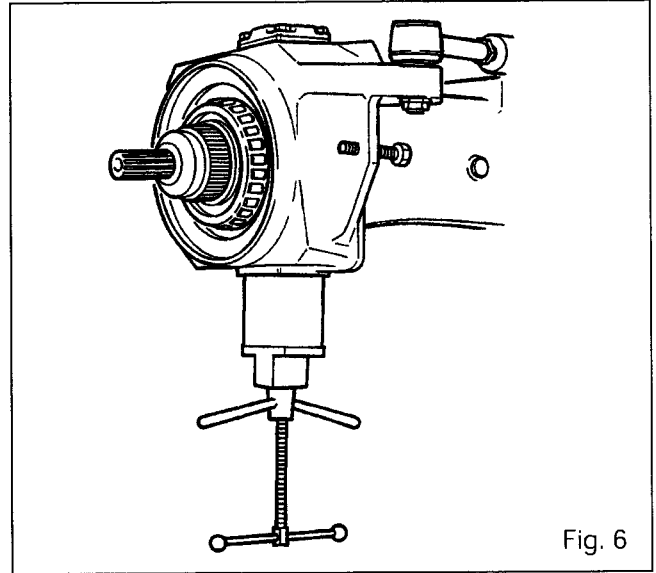

Fig. 6
53. Remove the bolts **(1)**, the cover **(15)** and the cup **(14)**. Extract the swivel pin **(11)** (Fig. 6) using tool MF451B and end fitting MF451B3 (See Part I).
54. Remove the bolts **(1)** and the cover **(2)**. Remove the shims **(3)** and the cup **(4)**. Extract the swivel pin **(7)** as already described for the lower pin (Fig. 6). If necessary, extract the cones **(5)** and **(13)** from the swivel pins.
**Note: Bush (31) is fitted with Loctite 270.**